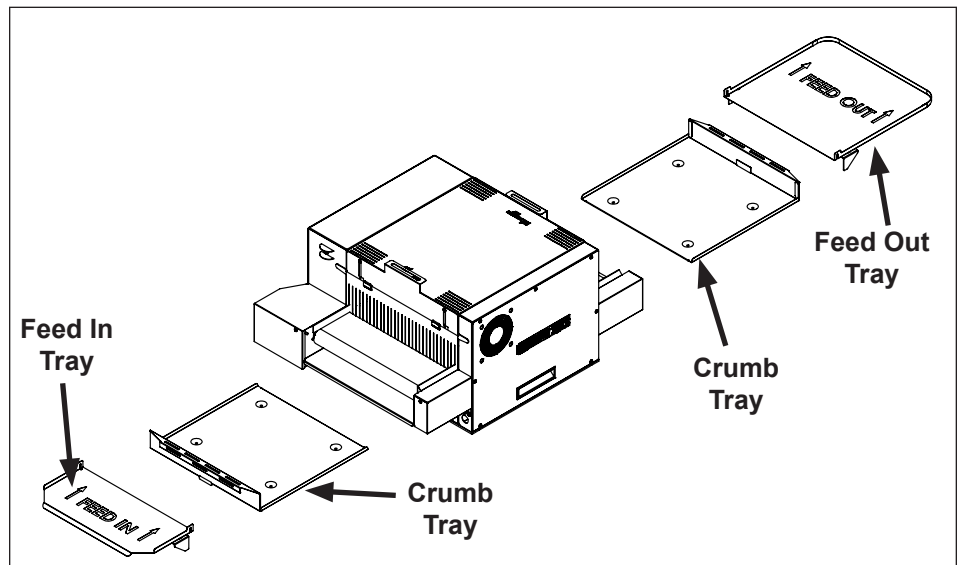

Figure 1. HRT-4H Components
7. Attach the Bun Feeder, Crumb Tray, and Feeder Trays (Figure 1).